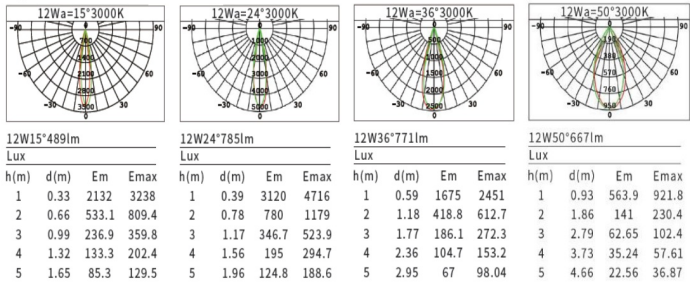

Figure 3- Fixed CCT Light - Light Distribution
Step 3: After the installation of the outer ring (embedded parts) is completed, paint the ceiling to make the outer ring invisible (see Figure 3 below);